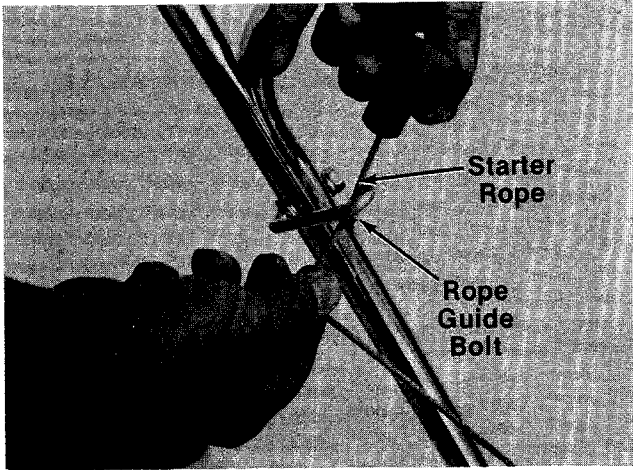

FIGURE 10.
16. Slip the starter rope into the rope guide bolt ← as shown in figure 10.